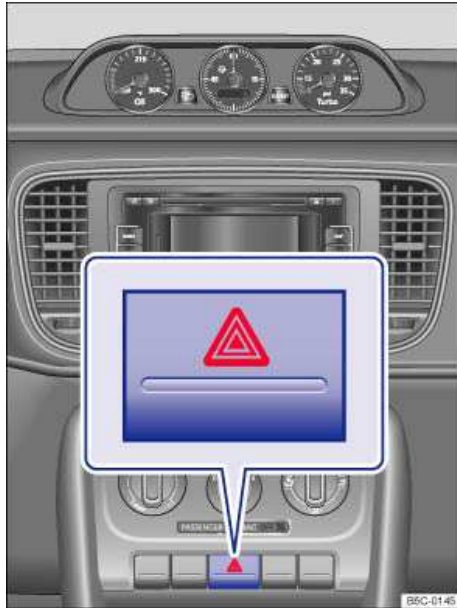

Fig. 152 In the center of the instrument panel: Button for the emergency flashers.
2. Switch on emergency flashers by pressing the  button ⇒ fig. 152.